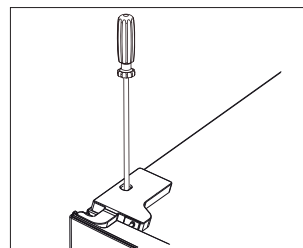

Fig. 17
- ▶ Place the hinge cover (27) onto the hinge with the door contact mounted and tighten the hinge cover (27) (Fig. 17).